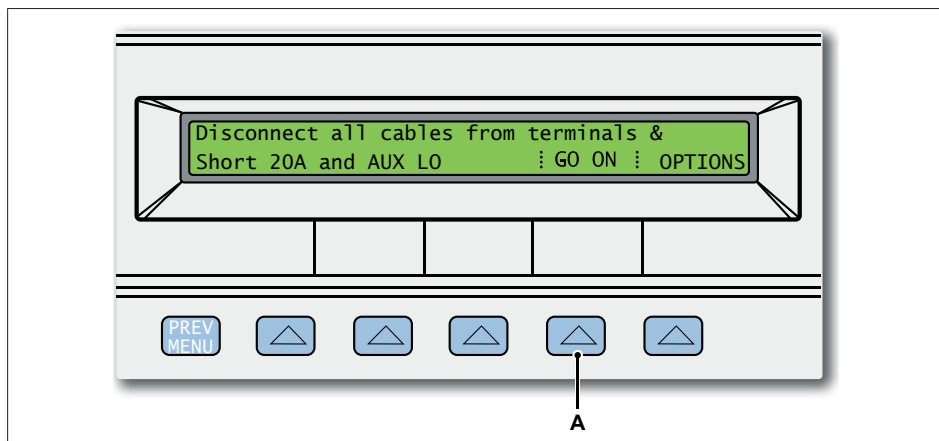

Fig. E.17 Fluke 5522A status message (20 A to be applied)
7. Select the **GO ON** button to continue with the Zero calibration process (see Fig. E.17).